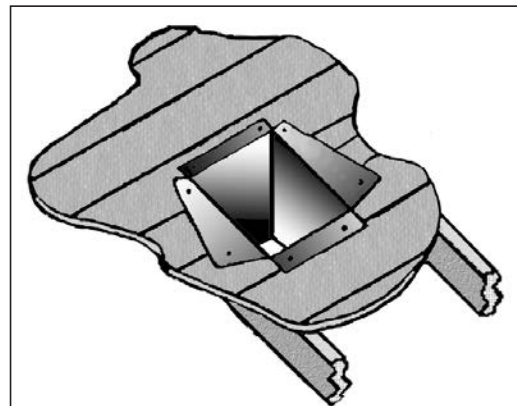

Figure 40: Cathedral Ceiling Support Box Installation.
5. Using tin snips, cut the “Support Box” from the top corners down to the roof line, and fold the resulting flaps over the roof sheathing (Figure 40). Before nailing it in to the roof, run a bead of non-hardening mastic around the top edges of the “Support Box”, to make a seal between the box and the roof. Clean out any combustible material from the inside of the “Support Box”.